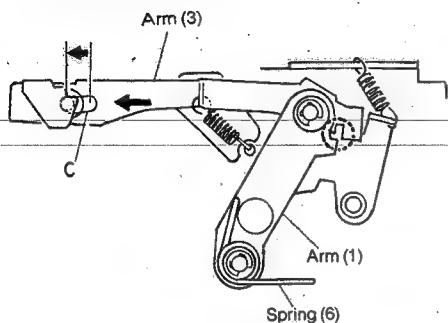
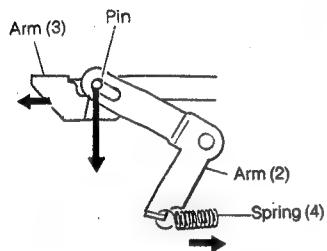

Fig. 6
Fig. 7
6. With Arm (1) pushed to the stroke limit, the notched part of Arm (3) locks Arm (1), with the result that, by the action of Spring (6), Arm (3) moves leftward a distance corresponding to the stroke in the oval hole at point C (see Fig. 6). The pin, then, now freed from support, as described in Item 5 descends and drops the cassette (see Fig. 7).